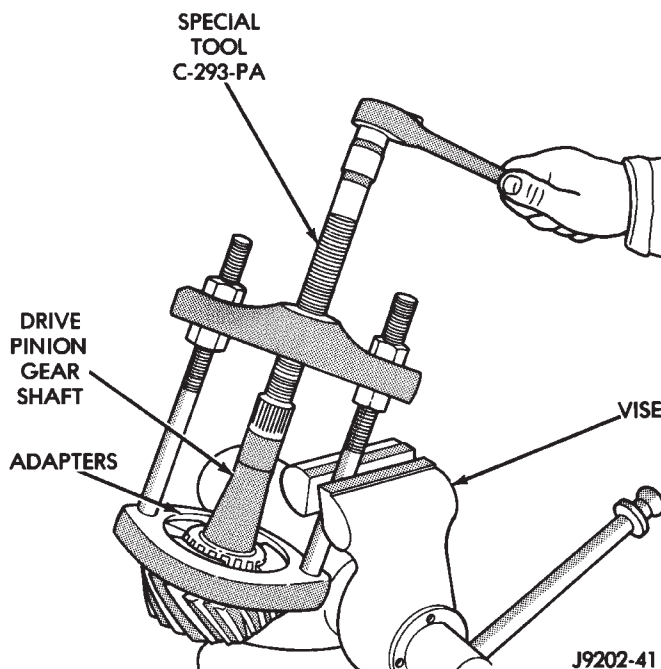

Fig. 45 Rear Bearing Removal
(12) Remove the rear bearing from the pinion with Puller/Press C-293-PA and Adapters C-293-40 (Fig. 45).